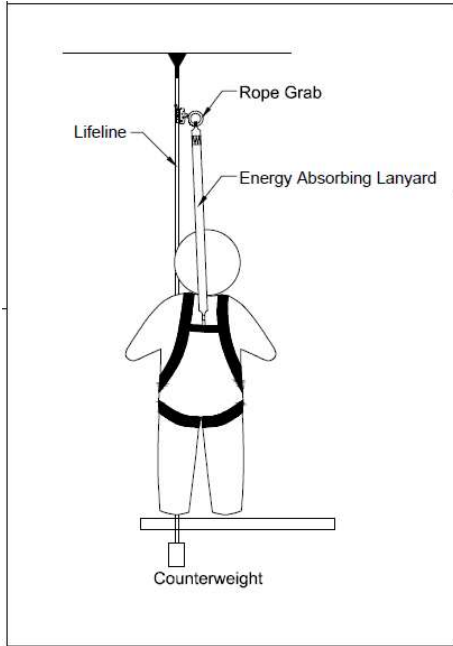

Figure 2– Fall Arrest
- A. 1 PURPOSE:** The N610LY, N630LY rope grabs are intended to be used as part of a personal fall arrest system. Applications for these rope grabs include most activities where there exists the need for fall arrest or restraint (on sloped surfaces) Figures 2 and 3 are examples of these applications. This rope grab is a part of a complete fall arrest system, including approved lifeline (only lifelines listed in these instructions can be used), integrally attached shock absorbing lanyard (supplied with N610LY, N630LY – only these shock absorbing lanyards can be used) and full body harness. Maximum permissible free fall is 1.8 m (6 feet). The rope grab can ONLY be used with the supplied integrally attached shock absorbing lanyard.